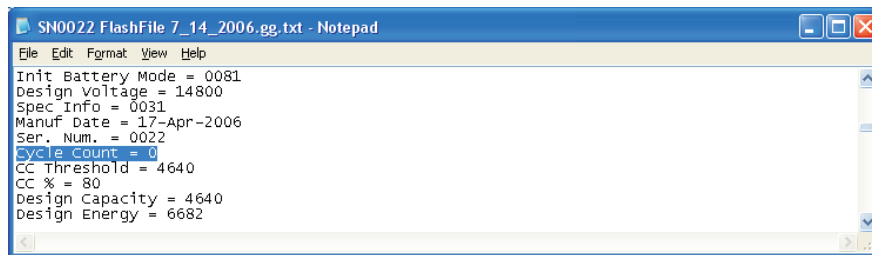

Figure 16. Cycle Count Modification in GG file using Notepad
5. Reset the *Cycle Count* field to "0," as shown in Figure 16.